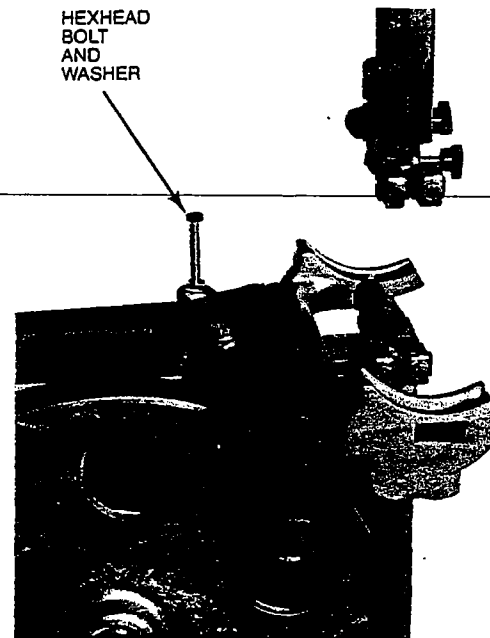

FIGURE 12
2. Insert and secure two hexhead bolts with washers into bracket holes and main frame (Figure 12).